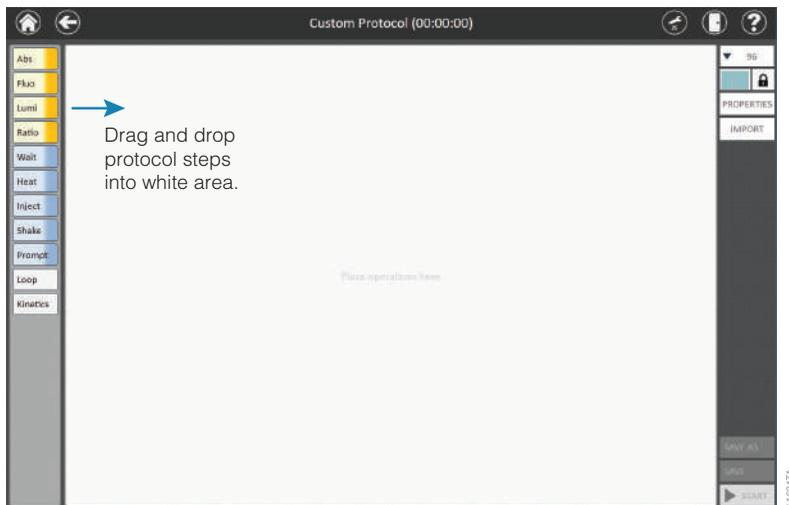

Figure 19. GloMax[®] Discover 'New Protocol' screen showing drag and drop feature to create custom protocols.
3. Build your protocol by dragging and dropping protocol functions from the left panel onto the **Protocol Window** (Figures 19 and 20). Individual protocol functions are described in the Protocol Functions section. Use the **Properties** button on the right to modify the name and description of the protocol.